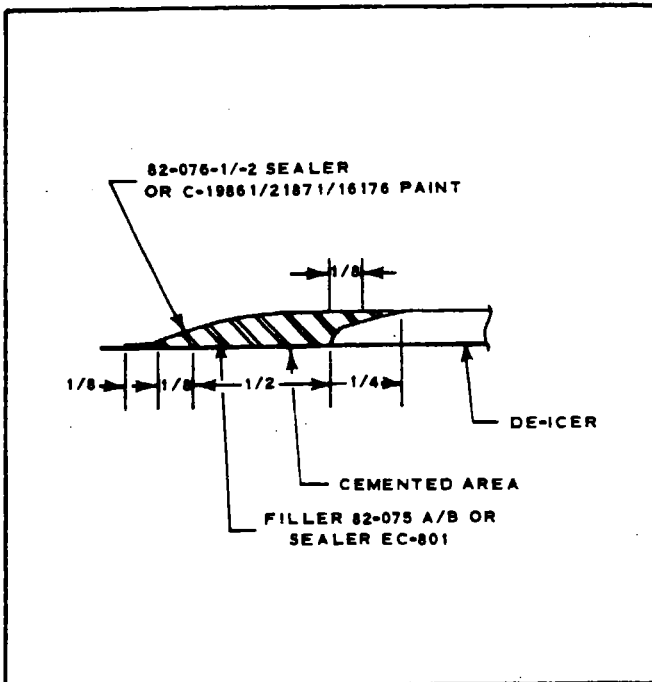

Figure 14-13. Sealer Application (Boot)
e. Locate masking tape approximately -.125 inch beyond cemented area around deicer to allow application of filler directly to metal. Apply one even brush coat of 82-075A/B filler (or EC-801 sealer) over .125 inch of bare metal, cemented area and about .125 of an inch of deicer. (See Figure 14-13.)
g. Apply new masking tape approximately .125 of an inch beyond filler to allow application of sealer directly to metal. Apply one even brush coat of 82-076-1/2 sealer (or C-19861/C-16176 paint) over .125 of an inch of bare metal, filled area and .250 of an inch of deicer. (See Figure 14-13.)